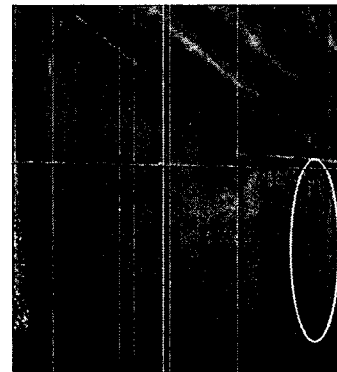

Figure 10
11. You will notice that behind the side bricks there are brackets that prevents the cast brick from going back any further and keeps it in position. **Figure 10.**